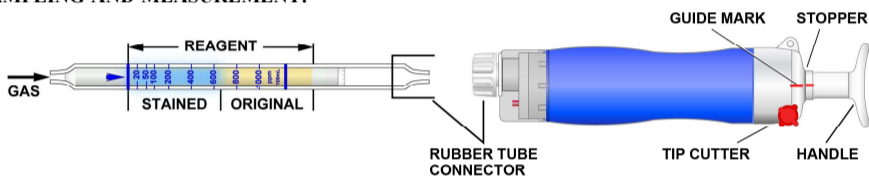

Fig.1
- ② Insert the detector tube into aspirating pump securely as shown in Fig.1. (Arrow mark shall point to the pump.)
- ③ Align the guide marks on the shaft and stopper of the aspirating pump.
- ④ Pull the pump handle at full stroke locked position and wait for 1.5 minutes or until the completion of sampling is confirmed with flow indicator of the pump. (See descriptions of the flow indicator in the instruction manual of the pump.)
- ⑤ On the completion of sampling, read the scale at the maximum point of the stained layer.
- ⑥ In case of measurement for Ethylene Chlorohydrin, push back the handle without removing the detector tube from the pump inlet, turn it right or left 1/4 and repeat step ④~⑤ twice more.